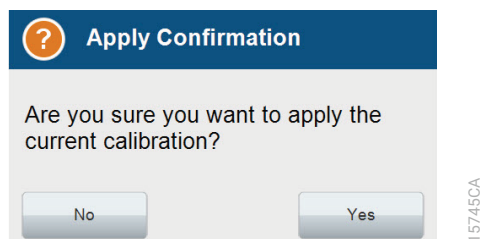

Figure 28. Apply spectral calibration confirmation window.
7. After reviewing the results, select **Finish**. This will open a confirmation window. Select **Yes** to apply the spectral calibration results (Figure 28). The spectral calibration results will not be saved unless you select **Yes** on this window.